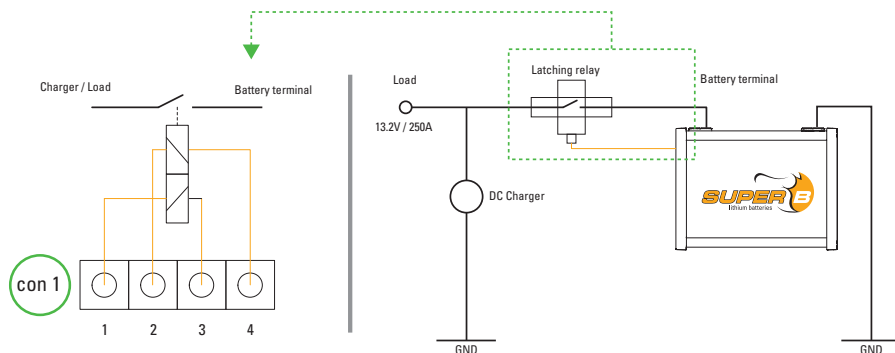

Figure 3. Connect a latching relay as BMS switch off device
1. When using a latching relay, connect it to Con 1 (I/O Connection 4) as displayed in Figure 3. The internal driver controls both high and low side.